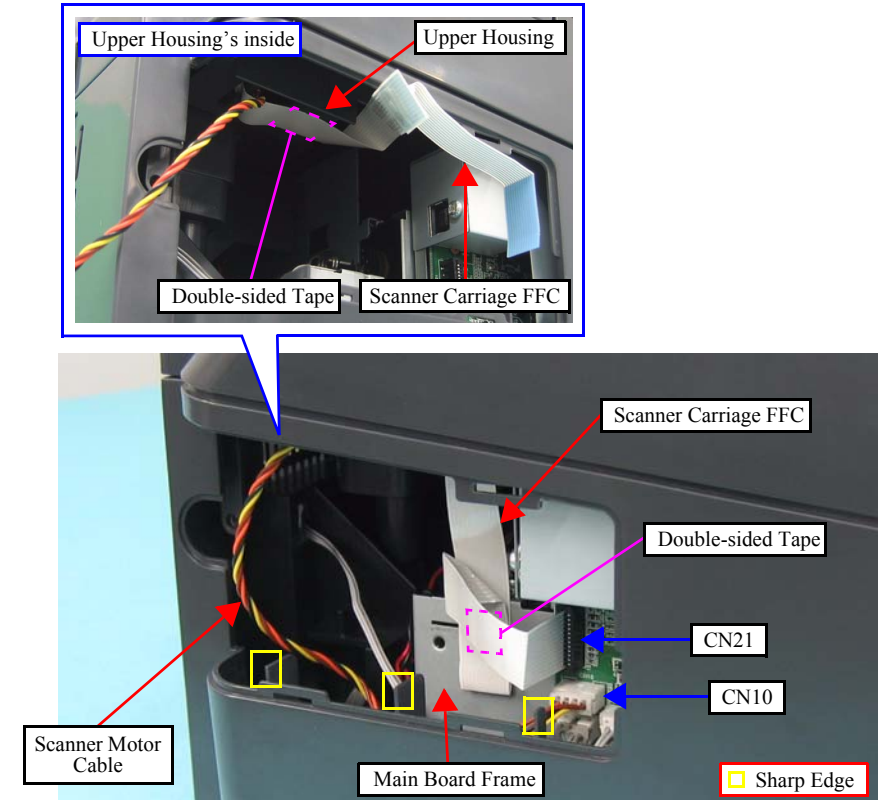

Figure 4-7. Removing the Scanner Unit (1)
Be careful of the sharp edges shown in Figure 4-7 when assembling or reassembling.
- Route the Scanner Carriage FFC and secure it to the Upper Housing and Main Board Frame with double-sided tape as shown in Figure 4-7.